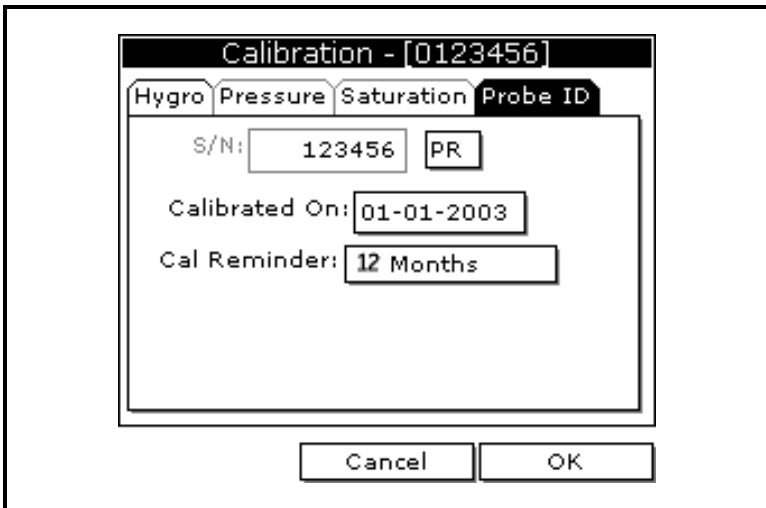

Figure 4-2: The Probe ID Window
4. Use the arrow keys to scroll to the **Probe ID** tab and press [ENTER]. A screen similar to Figure 4-2 appears.